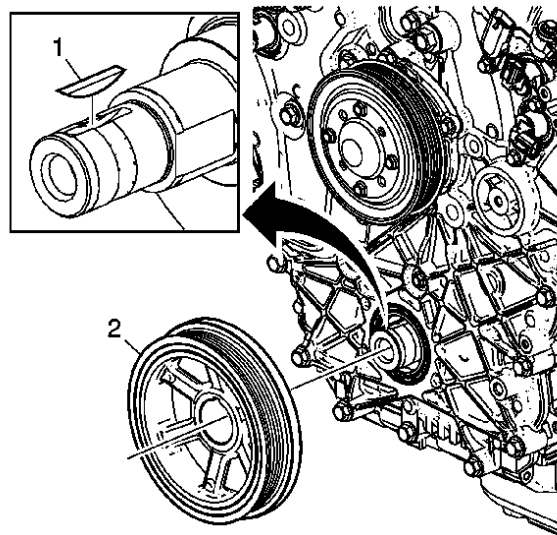

Figure 2: Ensure the key is installed properly in the crankshaft
- 9 Ensure the key located on the top of the crankshaft is correctly installed in the crankshaft. Failure to adhere to this may cause engine damage. See Figure 2. Install the new balancer onto the end of the crankshaft as straight as possible prior to tool installation.